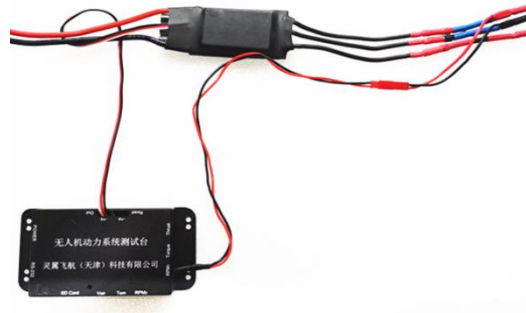

Fig. 2.2.3 Connection of signal cables
(2).Connect JST Plug. ESC signal cable connects to “OUT” port on the control module, as shown in Fig. 2.2.3: